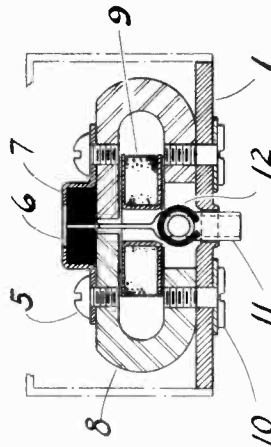

Fig. 6. Front View of Pickup
Refer to Fig. 6 showing the pickup inner structure. The armature (11) is shown in its proper relation to the magnet pole pieces, i.e., exactly centered. Whenever this centering adjustment has been disturbed, the screws (5) and (10) should be loosened and the armature rubber cushion (12) adjusted so the vertical axis of the armature is at right angles to the horizontal axis of the pole piece (8). Adjust the tension on the armature until there is a slight rocking motion. The spacing between the pole pieces and armature should be .0125 inch on each side.